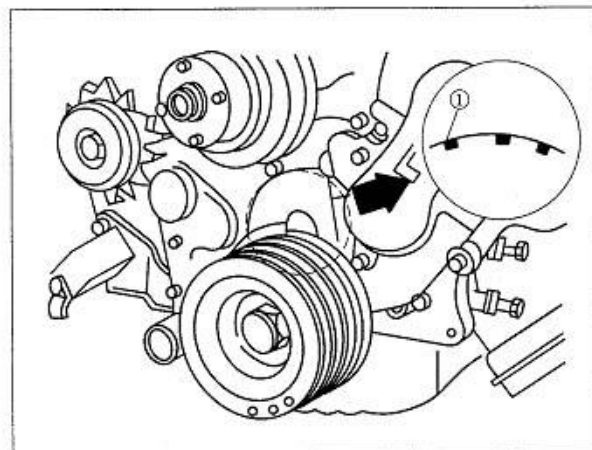
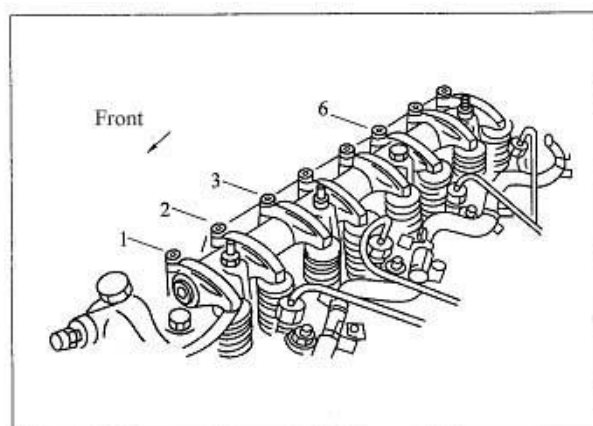

Figure 3-19 Turn Cankshaft to No.1 Piston at TDC of Compression Stroke
Figure 3-20 Adjust the 1st,2nd,3rd,and 6th Valve Clearances
(1) Turn the crankshaft, let the piston of cylinder No.1 reach TDC piston (see Figure 3-19), “TDC” mark on edge of pulley right towards the pointer on gear case cover, in this condition adjust the 1st, 2nd, 3rd, and 6th valve clearance (see Figure 3-20).